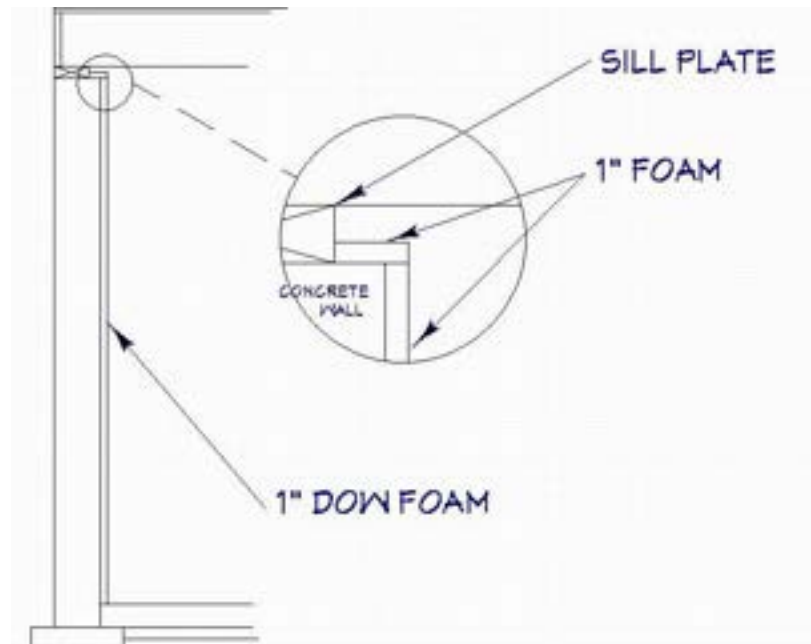

Figure 6-4. Basement Wall Insulation.
3. Before building any walls, cut 1" foamboard to cover the foundation walls behind any 2x4 walls. Apply foamboard from the floor all the way up the wall and also on the top of the foundation wall where the sill plate does not cover (see Figure 6-4).